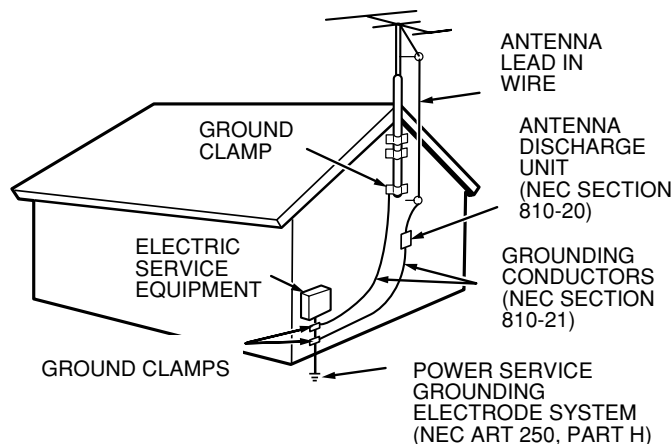

FIGURE 1
15. Outdoor Antenna Grounding – If an outside antenna or cable system is connected to the product, be sure the antenna or cable system is grounded so as to provide some protection against voltage surges and built-up static charges. Article 810 of the National Electrical Code, ANSI/NFPA 70, provides information with regard to proper grounding of the mast and supporting structure, grounding of the lead-in wire to an antenna discharge unit, size of grounding conductors, location of antenna-discharge unit, connection to grounding electrodes, and requirements for the grounding electrode. See Figure 1.